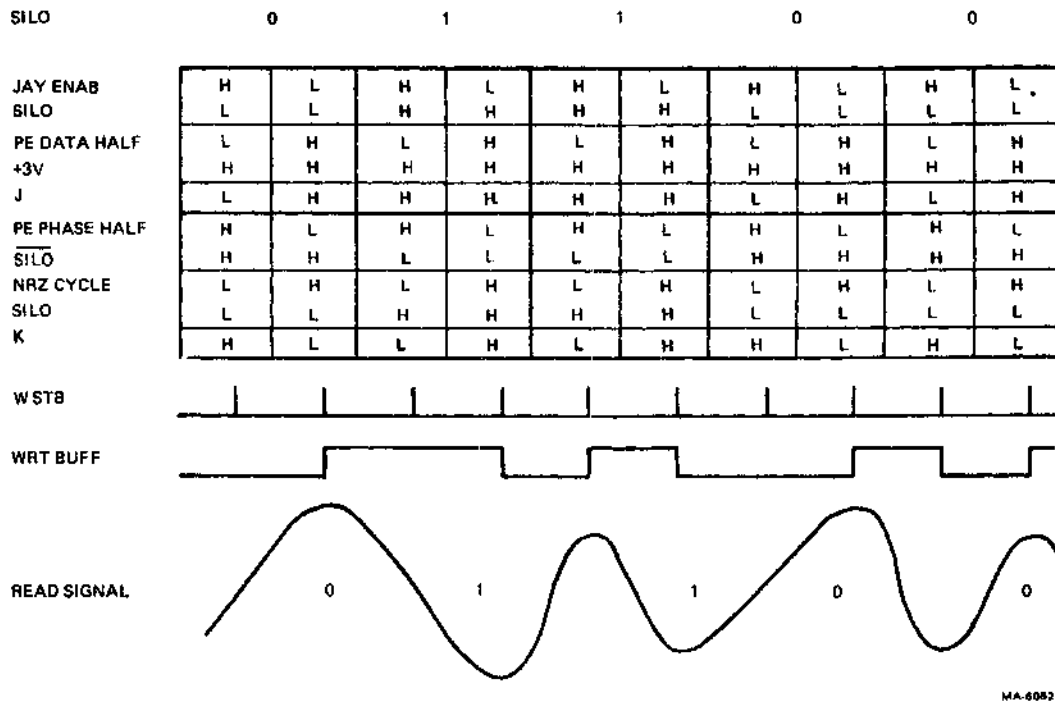

Figure 6-37 Write Data – Track n
6.6.3.3 Data Write Operation – Timing for write operations is shown in Figure 6-36. Operation of the WRT BUFF flip-flops is shown in Figures 6-37 through 6-40.
To see the operation of the write buffer flip-flops, refer to Figure 6-37. Keep in mind that the JK flip-flops will toggle if strobed with both J and K inputs high, and will not change if strobed when both inputs are low. The dominant signal states are indicated in boldface.